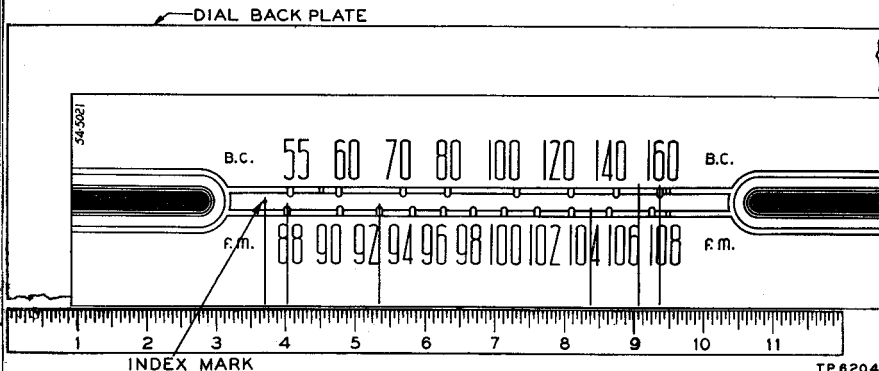

Figure 7. Dial-Backplate Calibration Measurements
**DIAL POINTER**—Calibration and pointer-index measurements are shown in figure 7. With tuning gang fully meshed, set pointer to index marker.